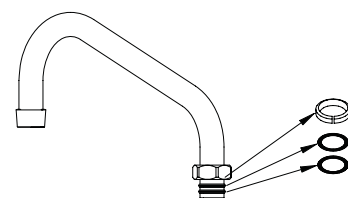

Fig.2 (O-rings and snap ring locations)
3. Before installing the new spout make sure the o-rings and snap ring are in place on the spout.(see Fig.2)